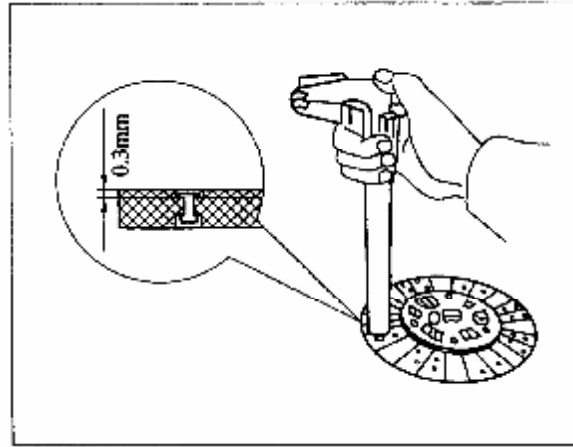

Figure 3-62 Check Driven Plate of Clutch
3.10.1 Check driven plate of clutch for wear or damage. Measure the depth of rivet head in friction plate. The depth should not be less than 0.3mm, otherwise replace the driven plate (see Figure 3-62).